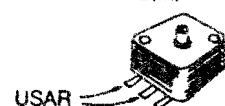

Fig.3
- FIG. 3 - OS (IMPORTANTES...) COMPONENTES DE SINTONIA...